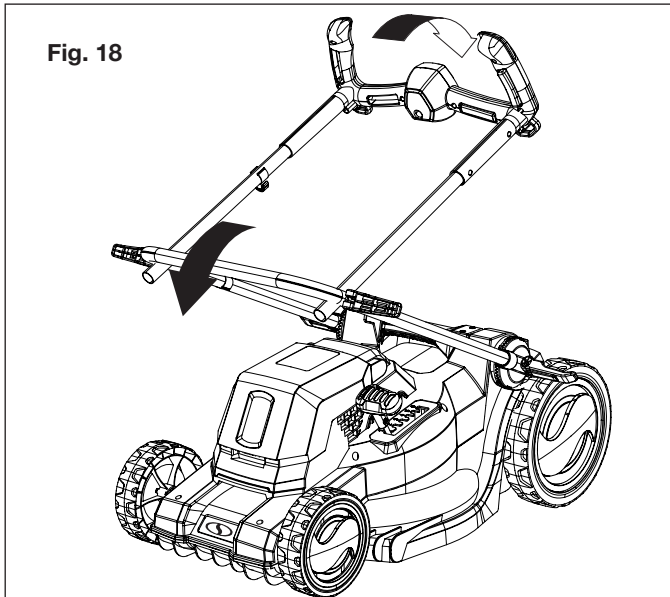

Fig. 18
- The handle on your lawn mower can be completely folded for compact storage. Start by flip down all of the handle latches and fold down the upper handle frame. Then lower the lower handle frame completely (Fig. 18).